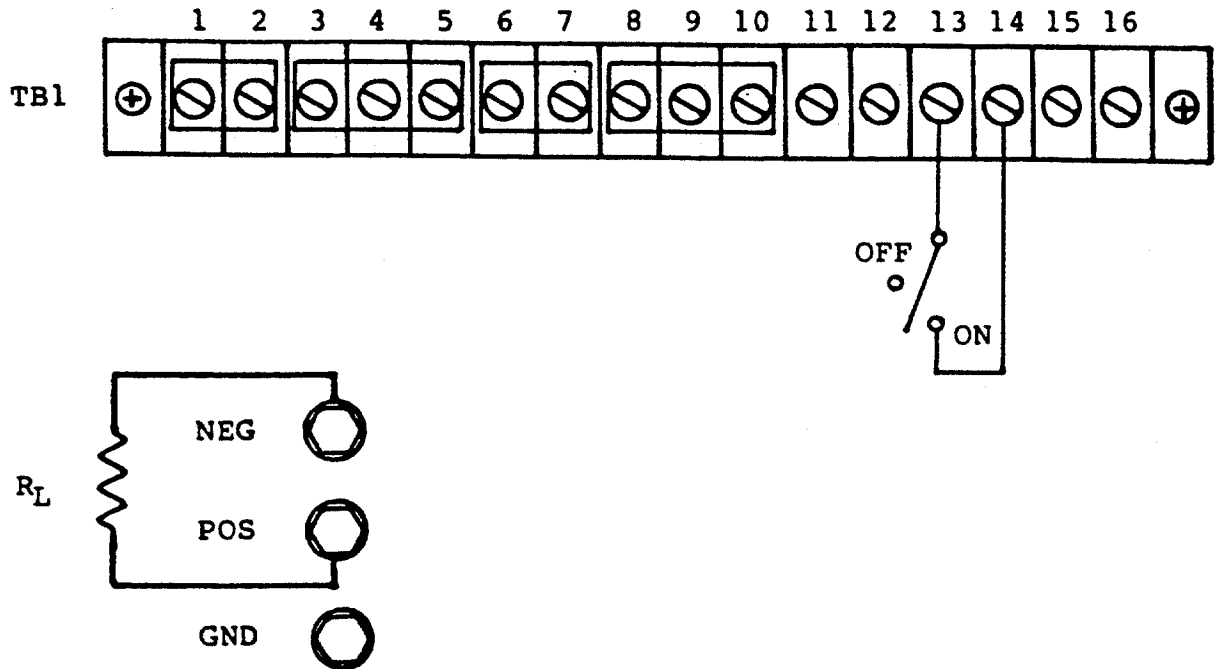

Figure 3-8. Remote On/Off Control by Contact Closure
(1) Remote on/off by contact closure. See Figure 3-8 for strapping requirements. Output is on when contacts are closed.